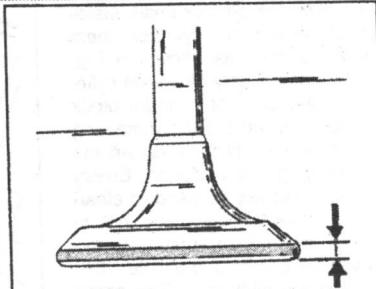

Fig. 1.50. — The valve head head is measured between the arrows. Make sure to observe the minimum permissible dimension.
**Valves:** Check the valve faces for wear or grooving. If the wear is only slight, regrind the valves to their appropriate angle in a valve grinding machine. All inlet valves and all exhaust valves of all engines have the same angle. Important is the valve head edge. This is the dimension shown in Fig. 1.50 between the arrows and must not be less than 0.50 mm (0.002 in.).